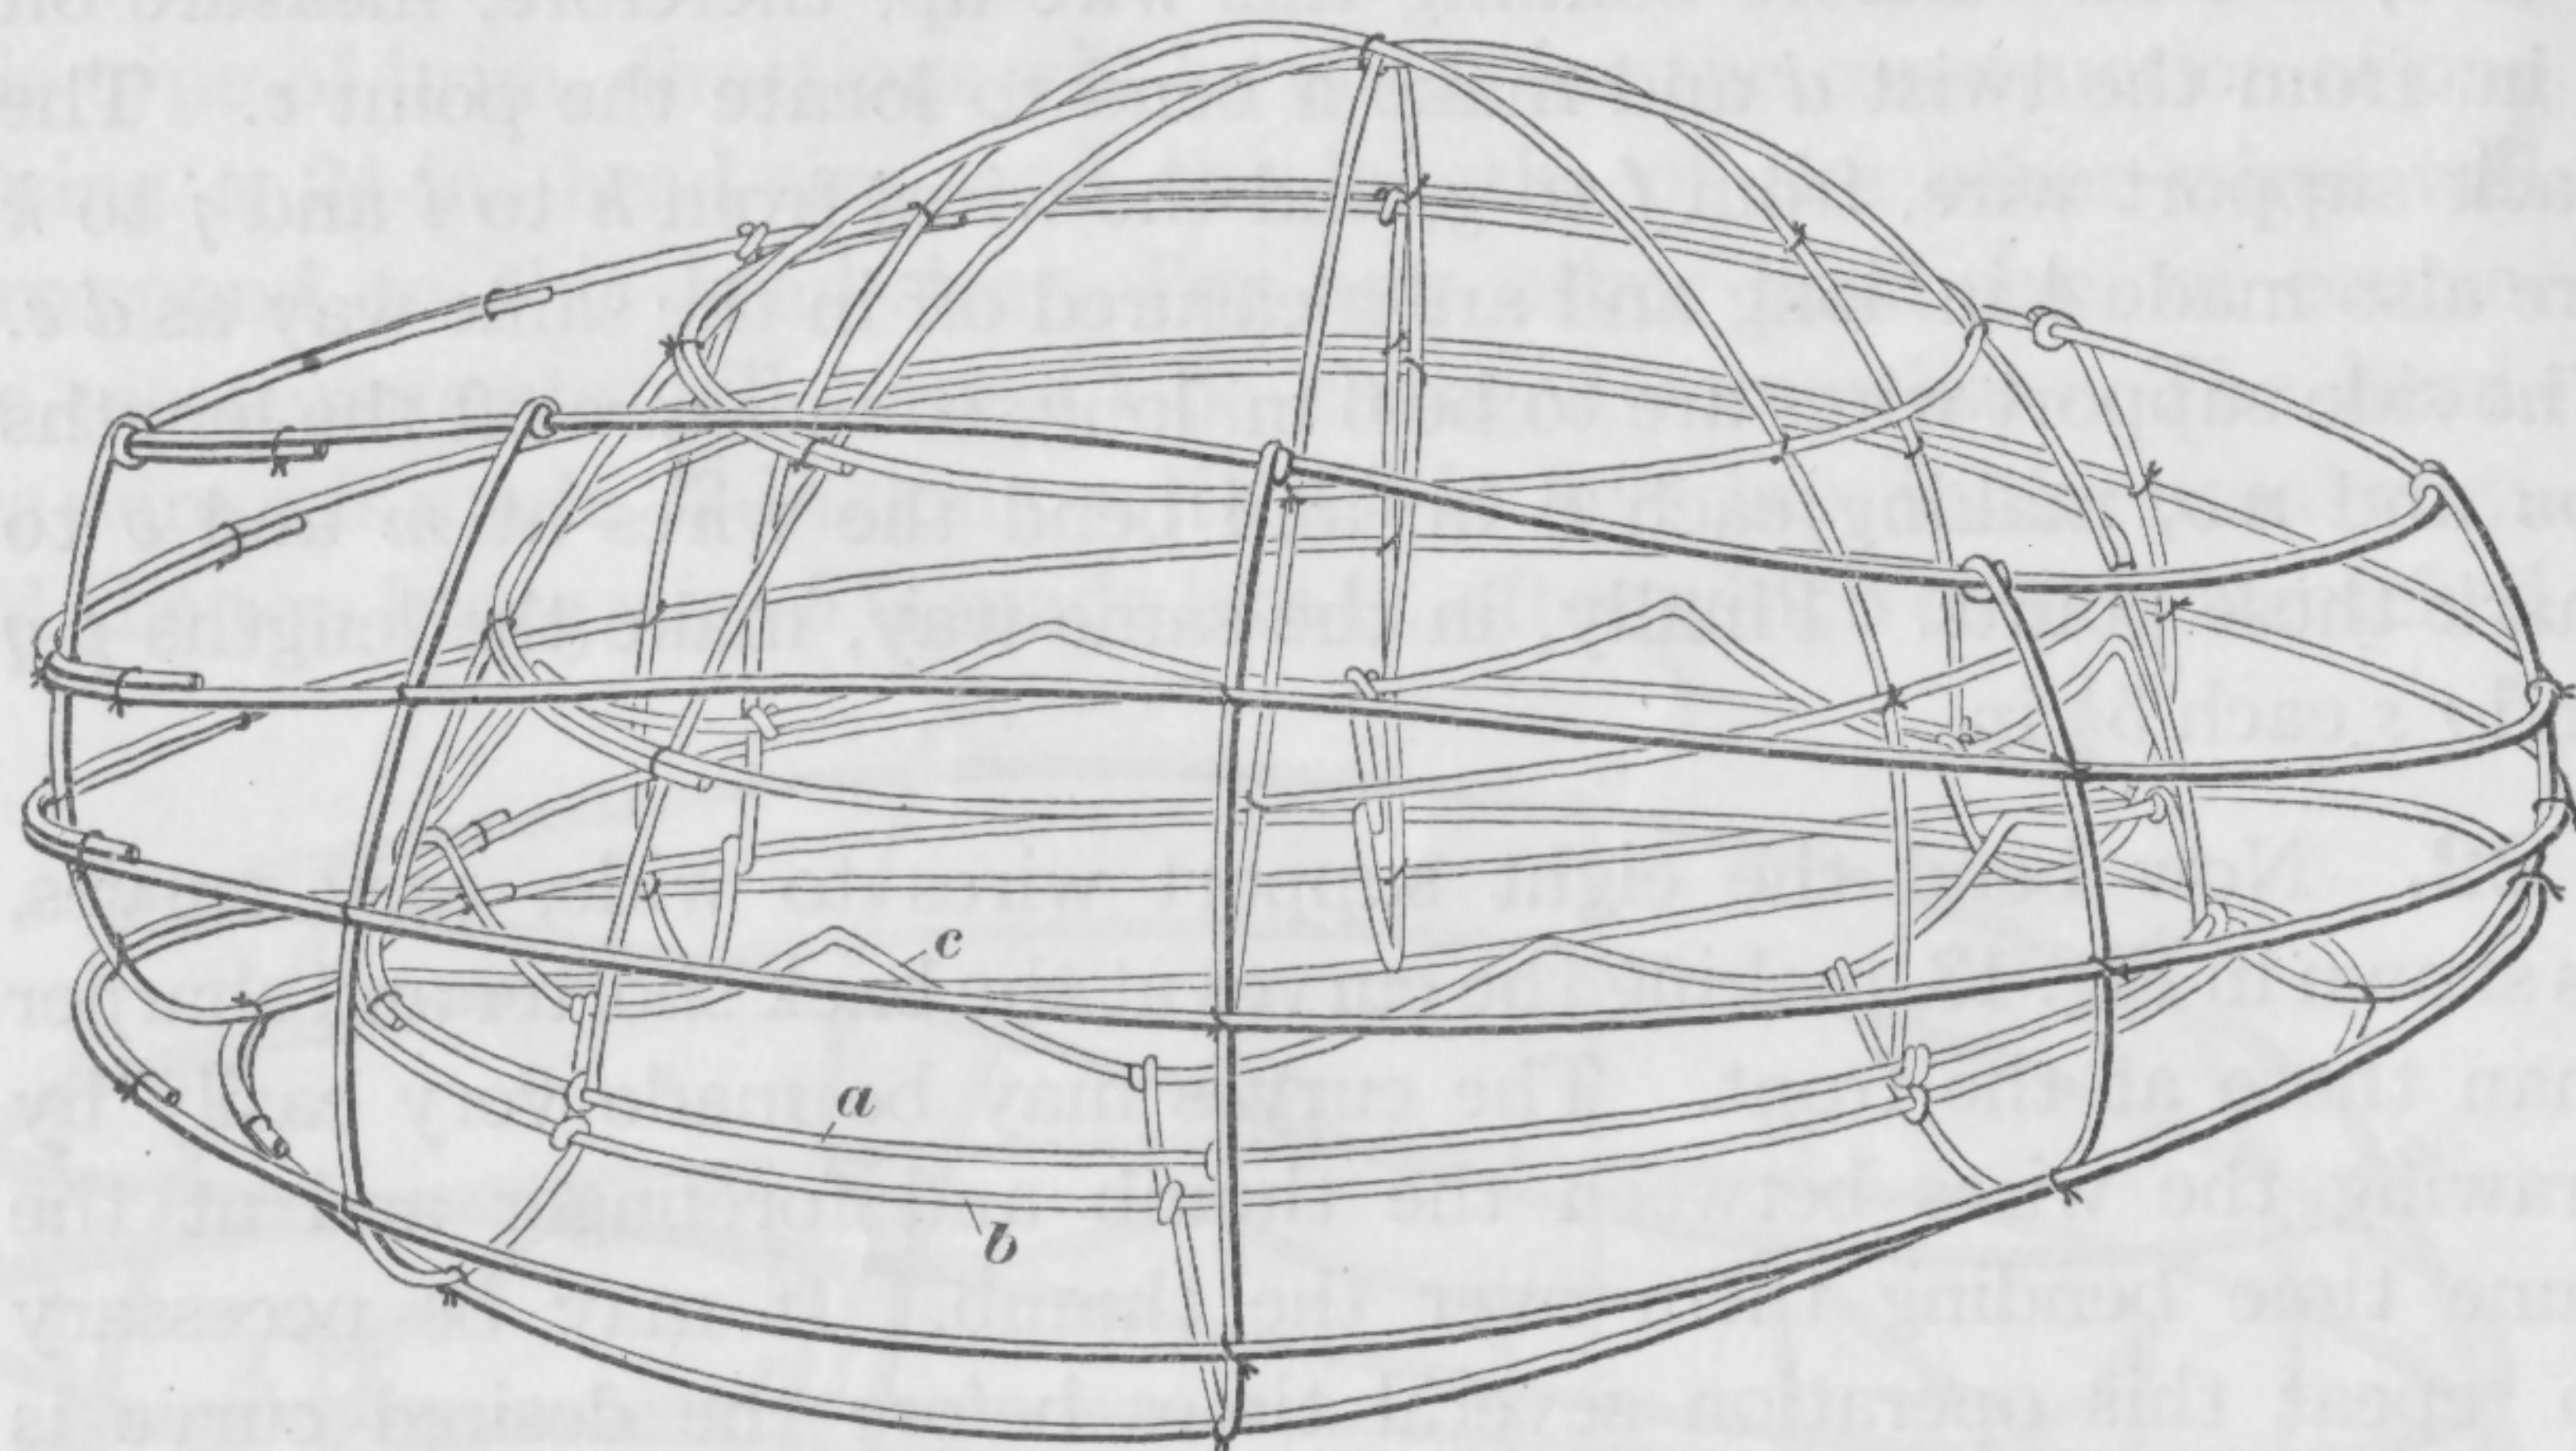

FIG. 14
23. A completed turban, showing a dome crown set in place on the brim just described, is illustrated in Fig. 14. It must be borne in mind, however, that the brim and the crown are first covered with braid or other material before they are fastened together. The illustration is intended to show how the crown fits on the brim. The head-size wire *a* of the crown must fit down on the head-size wire *b*